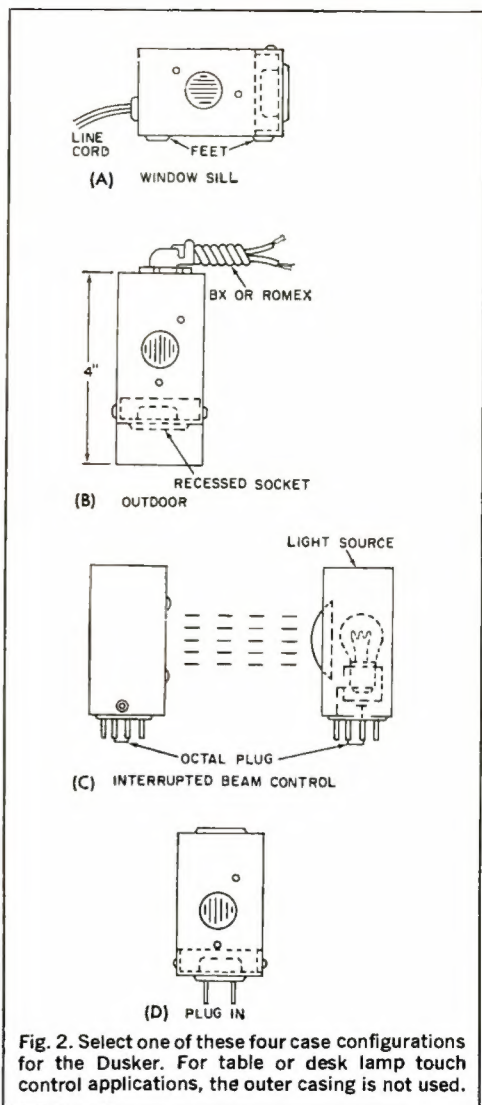

Fig. 2. Select one of these four case configurations for the Dusker. For table or desk lamp touch control applications, the outer casing is not used.
Construction Pointers. Li'l Dusker can be encased for mounting on a windowsill or anywhere outdoors, and can be plugged into a standard wall receptacle or octal socket. In Fig. 2(A), the Dusker has its own line cord and is mounted on a windowsill where it can “look” outside. For general outdoor use, BX, ROMEX, or other approved wiring can be brought in through the top of the unit. To make the Dusker weatherproof, the outlet can be recessed and the entire unit mounted as shown in Fig. 2(B) in a sheltered area.